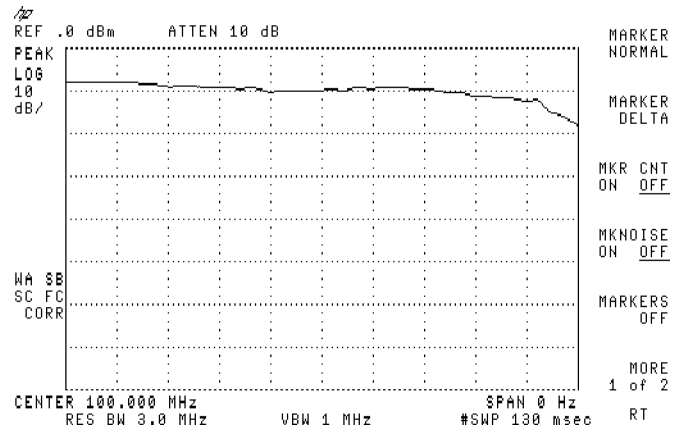

Figure 3-6. Synchronized Sweep Times with Conversion Loss Results
- Rotate the knob to refine the sweep time just until the signal “drop-out” disappears from the spectrum analyzer display, as illustrated in Figure 3-6.